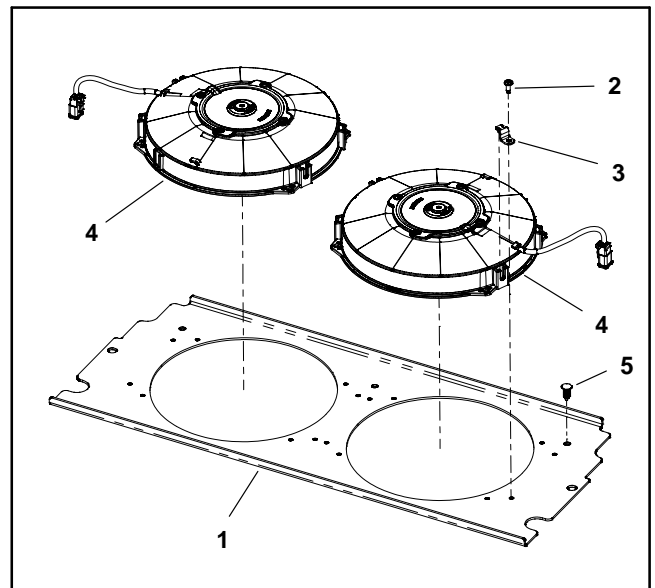

Figure 7
7. If necessary, disassemble condenser fan assembly using Figure 7 as a guide.
1. If condenser fan assembly was disassembled, use Figure 7 as a guide to secure fans to fan mount plate.
3. Secure fan assembly to machine with two (2) knobs.
4. Connect the two (2) condenser fan plugs to the wire harness connectors attached to the cab frame.